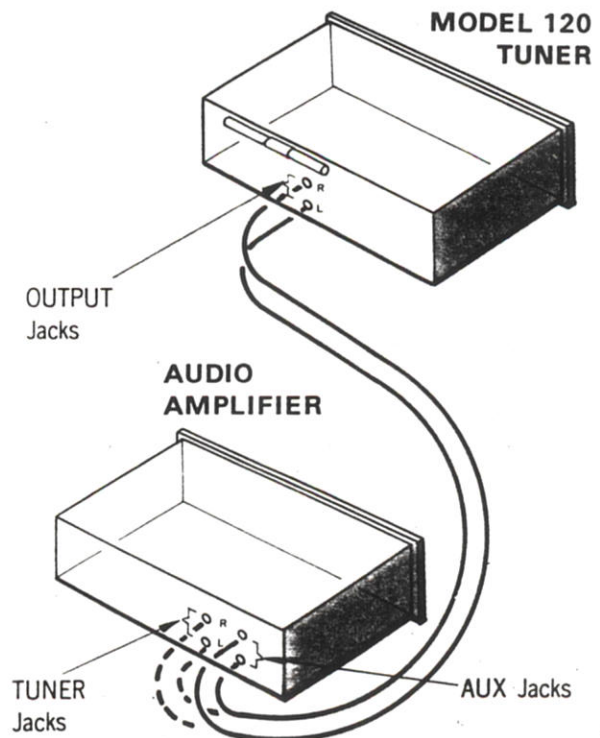

Figure 2. Connection of Tuner and Amplifier
Connect "R" OUTPUT of the Model 120 to the "R" input of AUX or TUNER jacks of your audio amplifier. Next, connect "L" OUTPUT of the Model 120 to the "L" jack of your amplifier as shown in Figure 2.
- Step 2. Connect both signal **OUTPUTS** to the **TUNER** (or **AUX**) input jacks of your amplifier as shown in Figure 2.